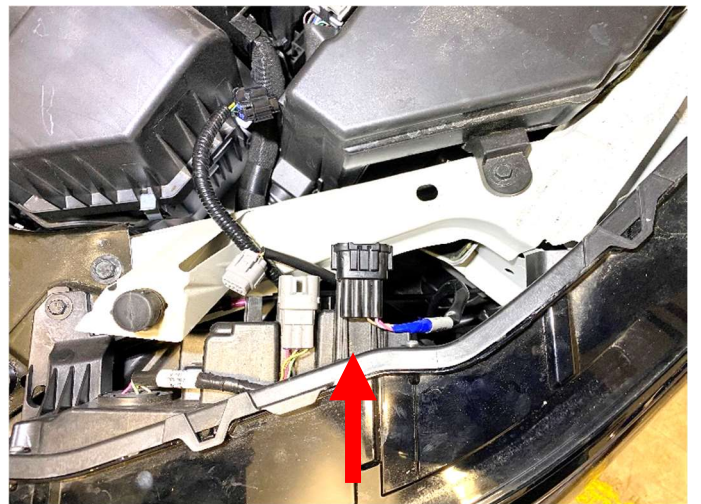

Figure 12
12. Remove connector from combination lamp assembly. (Figure 12)